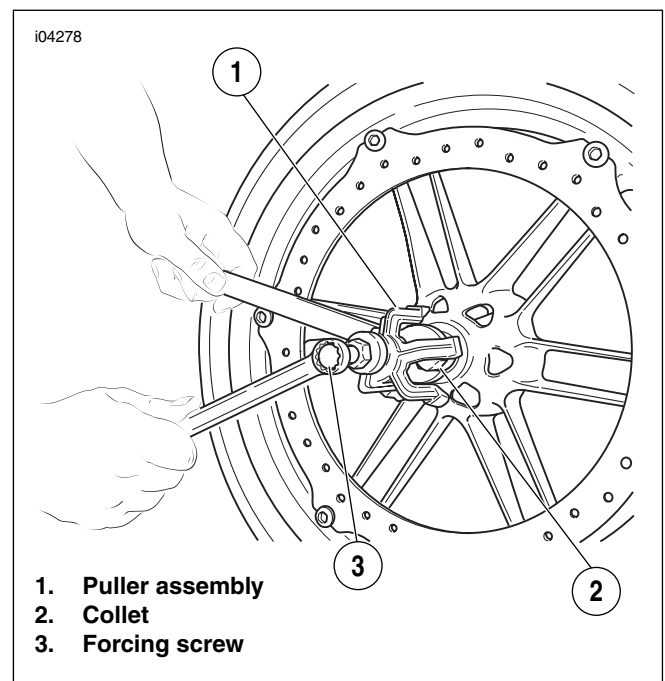

Figure 2-9. Expand the Collet
6. See Figure 2-9. Thread the puller assembly (1) into the collet (2).
7. Hold the collet (2), and turn the forcing screw (3) to expand the collet.